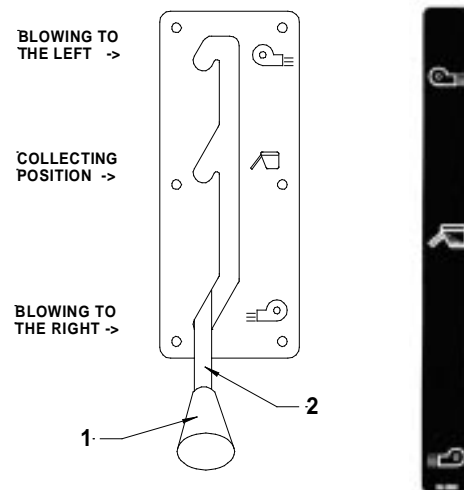

Figure 11
2. Install the oval knob on draft control (fig. 11).
1. The draft control is located on the left side of collector (fig. 11).